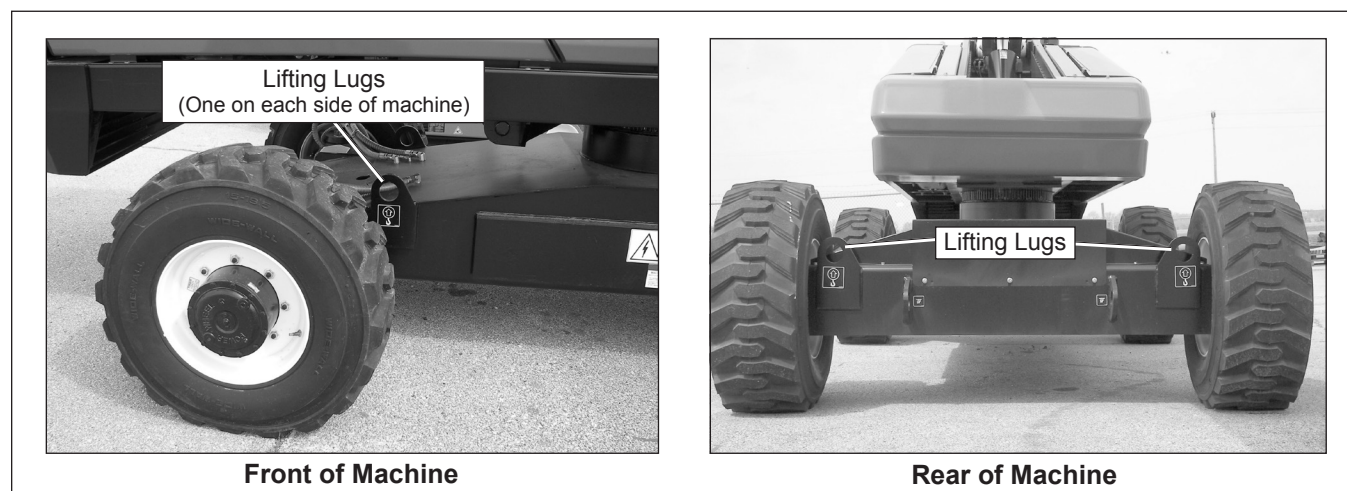

Figure 9.4 – Lifting Lugs
2. Inspect the lifting lugs (refer to Figure 9.4) to make sure they are free of cracks, rust and are in good condition. Have any damage repaired by a qualified service technician before attempting to hoist the machine.